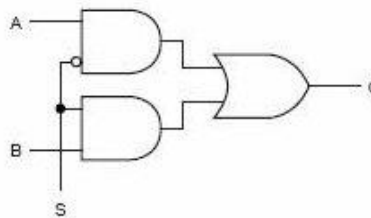

Figure 3: 2x1 Multiplexer
- b) Design a 2x1 multiplexer (implemented as shown in Figure 3).